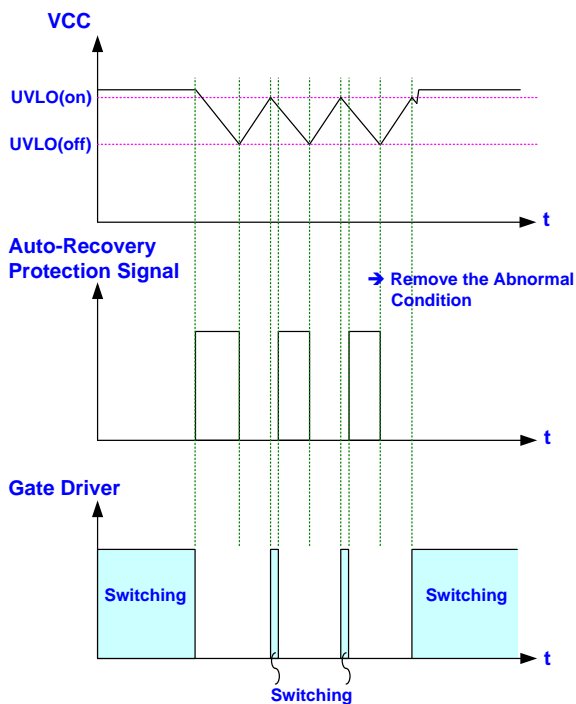

Fig 29.
As Auto-Recovery protection circuit latches the operation, the gate output will switch for a short term as every time VCC rises back to UVLO(ON). It therefore forces the VCC hiccup between UVLO(ON) and UVLO(OFF). As soon as the fault condition is removed, the system will resume its operation right away. Fig 29 shows the operation.